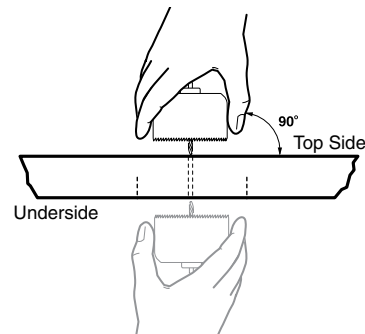

Figure 4 — Mark and start cutting on underside. Finish on top side.
- c. Using these dimensions, **mark and cut a hole** (using a 2 inch hole saw) for the projector pipe in the ceiling tile (see figure 4).